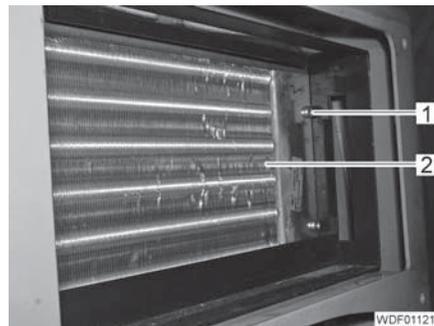

Fig. 403 Fixing the vaporizer
- Unscrew the 4 screws (Fig. 403,1).
- Carefully remove the vaporizer (Fig. 403,2) towards the front.
- Carefully insert the vaporizer (Fig. 403,2) from the front.
- Screw in and tighten the 4 screws (Fig. 403,1).